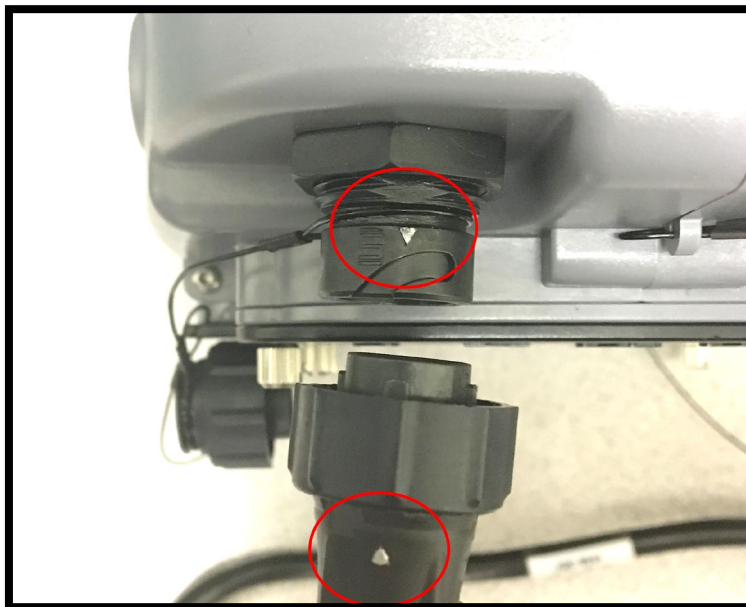

Figure 8. Arrows Show Proper Power Connector Orientation
2. Referring to Figure 8, on the upper-left of the rear panel, unscrew the protective cover from the DC power connector and plug in the DC power cable from the power supply. The connector is keyed, so use the arrows to line it up correctly, then push in and twist the ring clockwise to lock the connector in place. ***Do not force or overtighten the connection.***